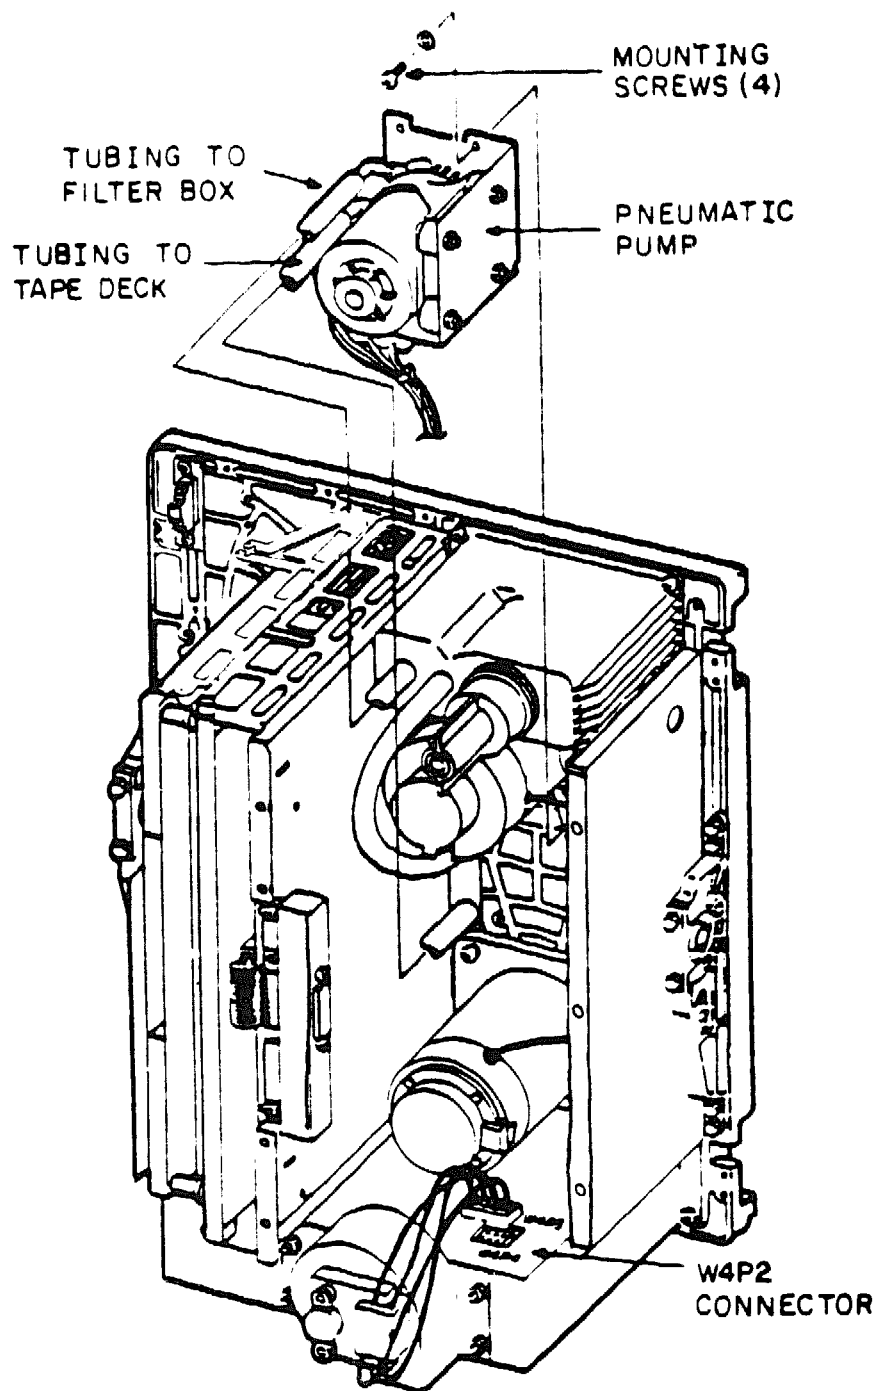

Figure 5-15. PNEUMATIC PUMP ASSEMBLY
2. Detach the two pneumatic tubes from the filter box assembly. See Figure 5-15.